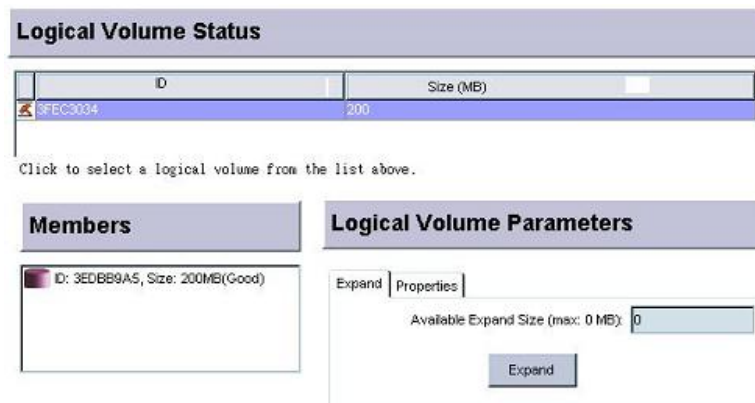

Figure 9-16: Existing Logical Volumes Window
Step 1. Select a configured LV from the Existing Logical Volumes window shown in *Figure 9-16*. As shown below, all the LVs that have been created will appear below the **Logical Volume Status** panel.